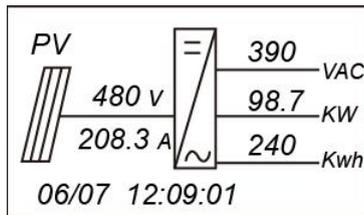

Figure 5-8 Normal operation mode interface
(3) Normal operation mode, as shown in Figure 5-8: